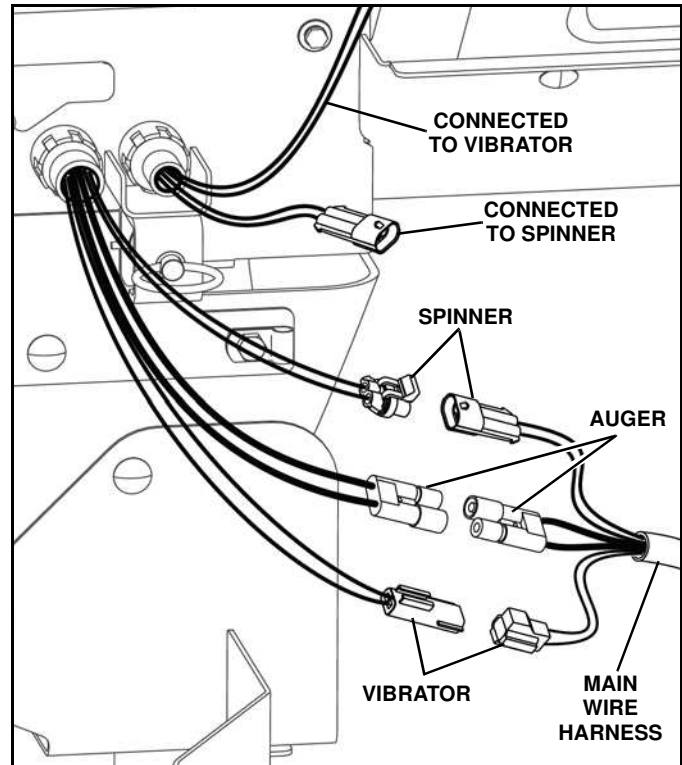

Figure 1-9
10. Connect the main wire harness connectors to the spreader connectors (See Figure 1-9).